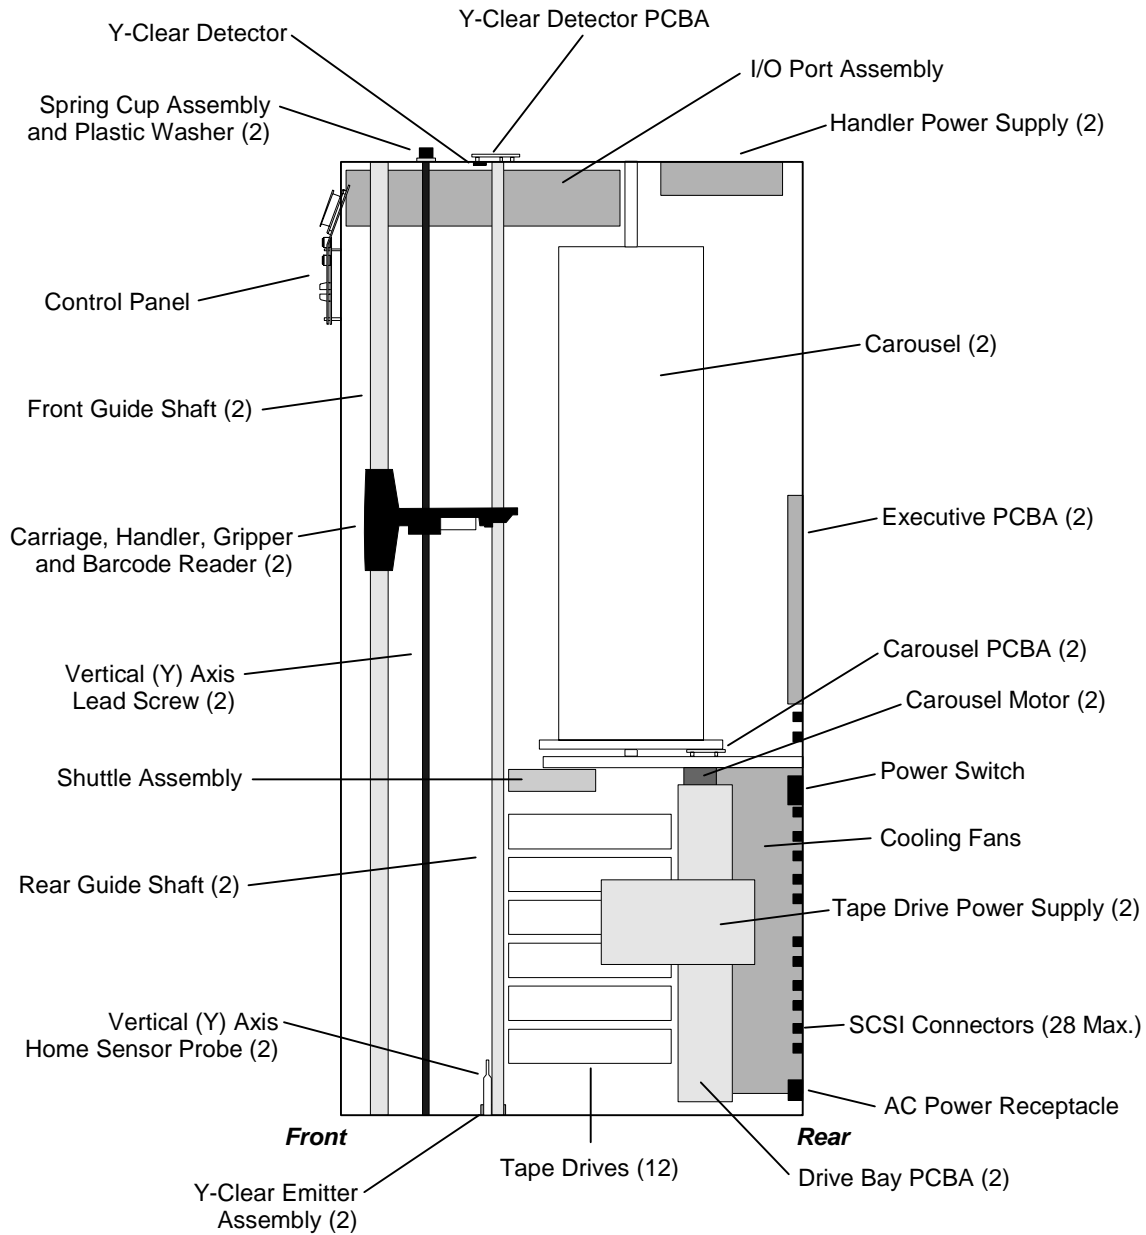
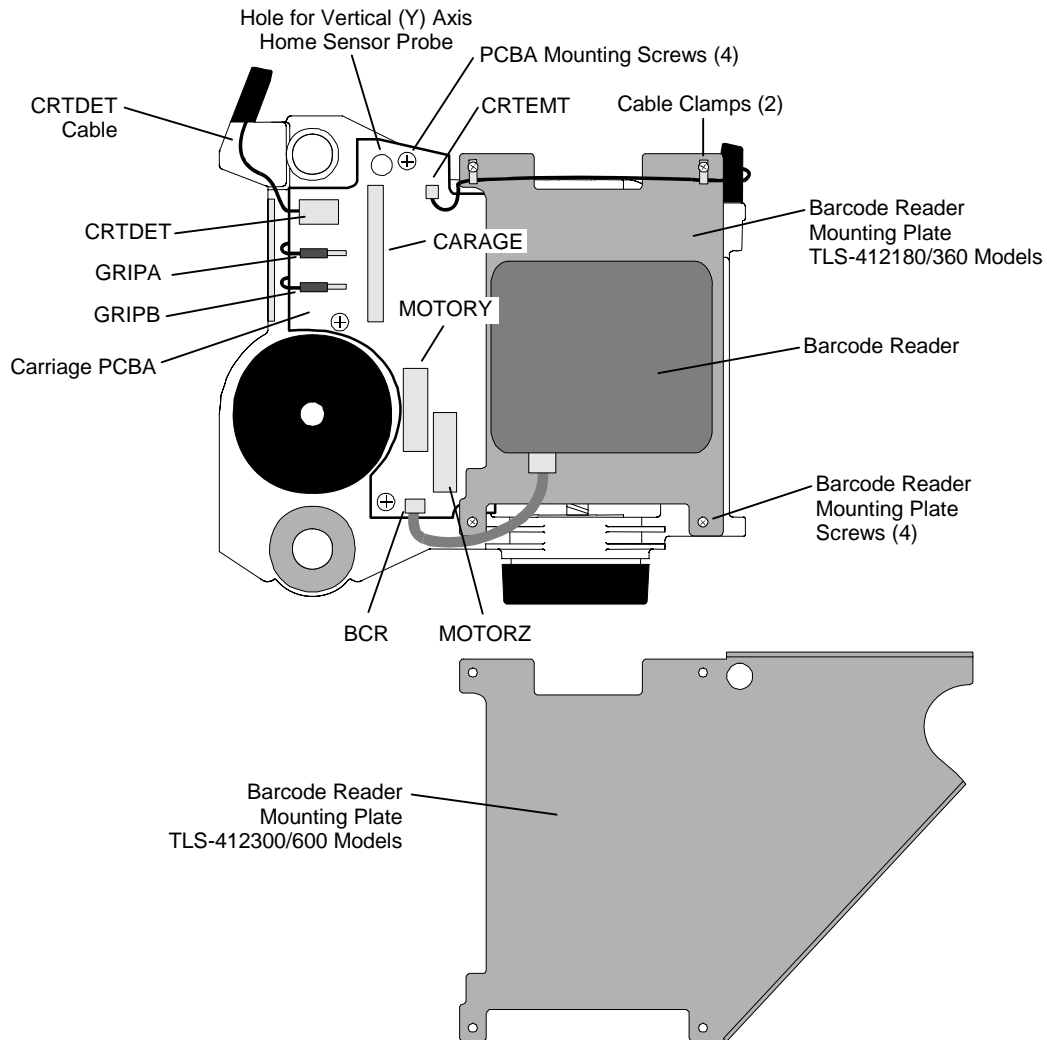

Figure 7-8 TLS-412180/360 Side View
Figure 7-16 Carriage PCBA (Handler Bottom View)
Be very careful not to damage a Vertical (Y) Axis Home sensor while removing a Carriage Assembly. There is very little clearance between the sensors (underneath and to the rear of the Carriage Assemblies) and the Vertical (Y) Axis Home Sensor Probes (Figure 7-8), which are mounted on the floor of the cabinet.
The Teflon[®] coating on the Leadscrew is easily scratched. Please handle the Leadscrew with care. The Leadscrew and Spring Cup Assembly will be removed as a subassembly (Figure 7-8).
Be very careful not to damage the Vertical (Y) Axis Home Sensor on the Vertical Axis Home Sensor Probe (Figure 7-8) when you move the Carriage Assembly.
13. Hold the Carriage Assembly with the left hand. Failure to do so, will cause the Carriage Assembly to tip over after the shaft is removed, possibly damaging the Vertical (Y) Axis Home Sensor. Lift the front Guide Shaft far enough to clear the Carriage Assembly. Gently lift the Carriage Assembly and remove it from the cabinet, then lower the front Guide Shaft down onto the bottom plate.
Be very careful not to damage a Vertical Axis Home sensor while removing a Carriage Assembly. There is very little clearance between the sensors (underneath and to the rear of the Carriage Assemblies) and the Vertical Axis Home Sensor Probes (Figure 7-8), which are mounted on the floor of the cabinet.
3. Insert the bottom end of one Guide Shaft (the end without the white spacer) into the front Guide Shaft hole in the top plate (Figure 7-8), then gently lower the
5. Slowly lower the Carriage Assembly, while using a gentle rocking motion, until the Vertical (Y) Axis Home Sensor Probe (Figure 7-8) fits into the hole in the Carriage PCBA (Figure 7-16), and the Carriage Assembly rests on the orange rubber bushing on the bottom plate.
7. Lower the Rear Guide Shaft down through the Rear Guide Shaft bearing in the Carriage Assembly (Figure 7-8) and into the hole in the bottom plate.
Refer to Figure 7-16.
7. Route the two-wire CRTEMT cable over the Barcode Reader Mounting Plate as shown, then place one metal cable clamp over each of the top two Barcode Reader Mounting Plate mounting screw holes as shown in Figure 7-16, to retain the CRTEMT cable.